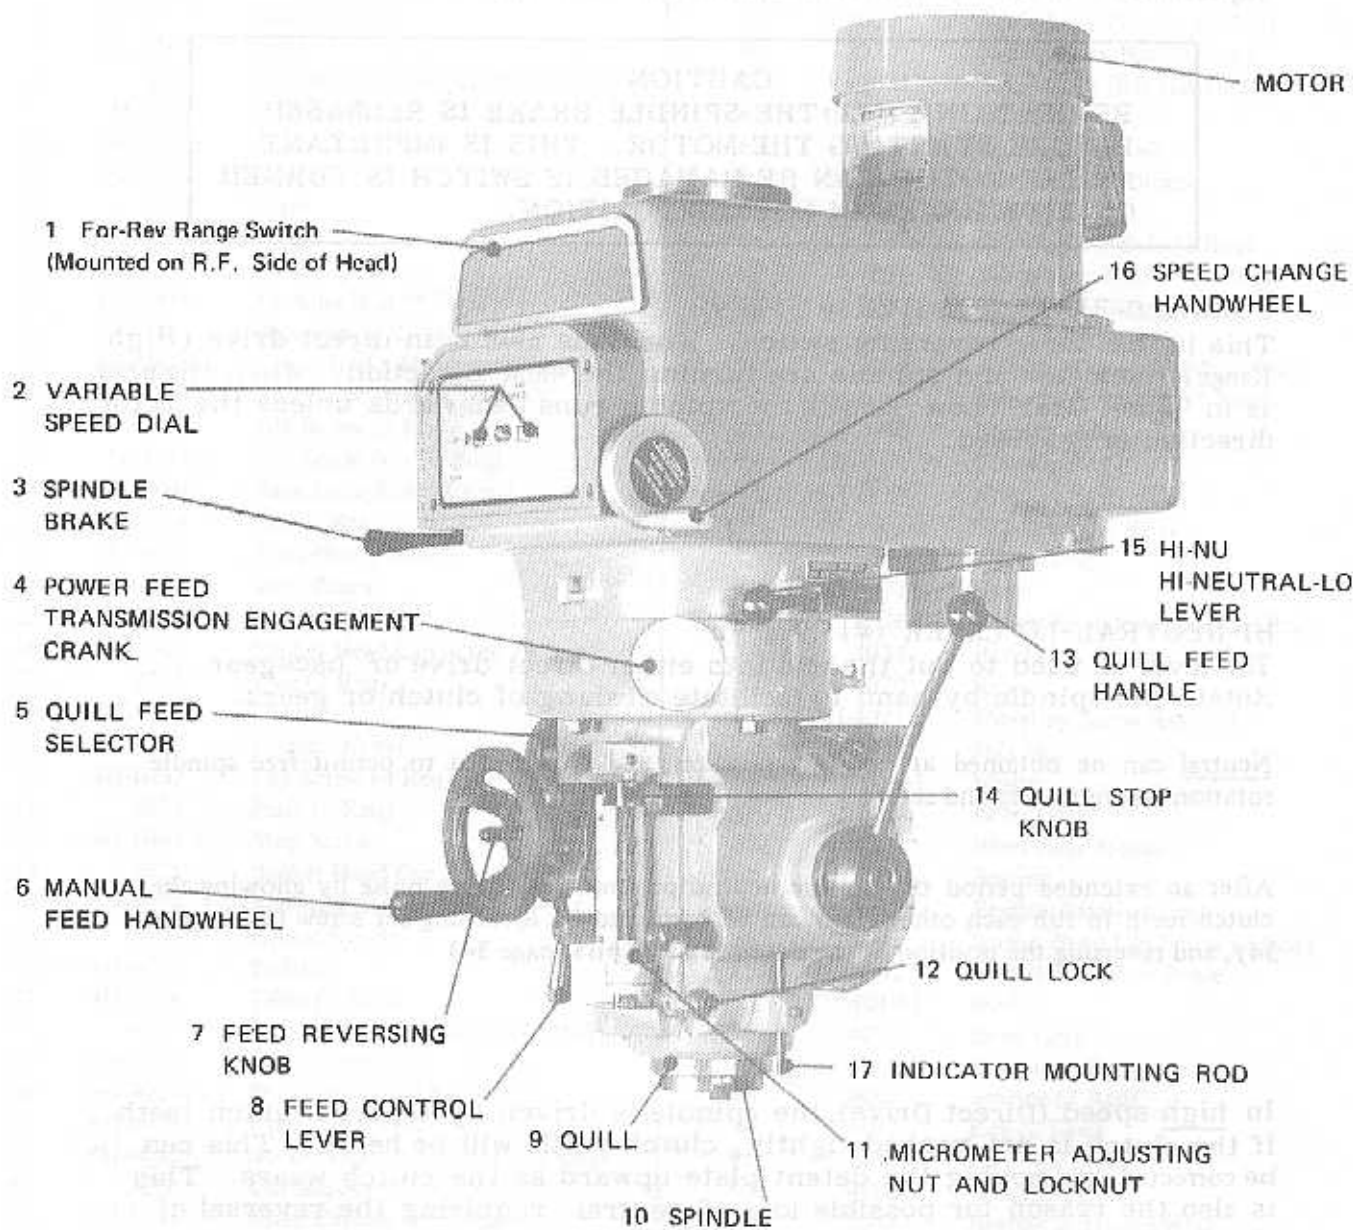
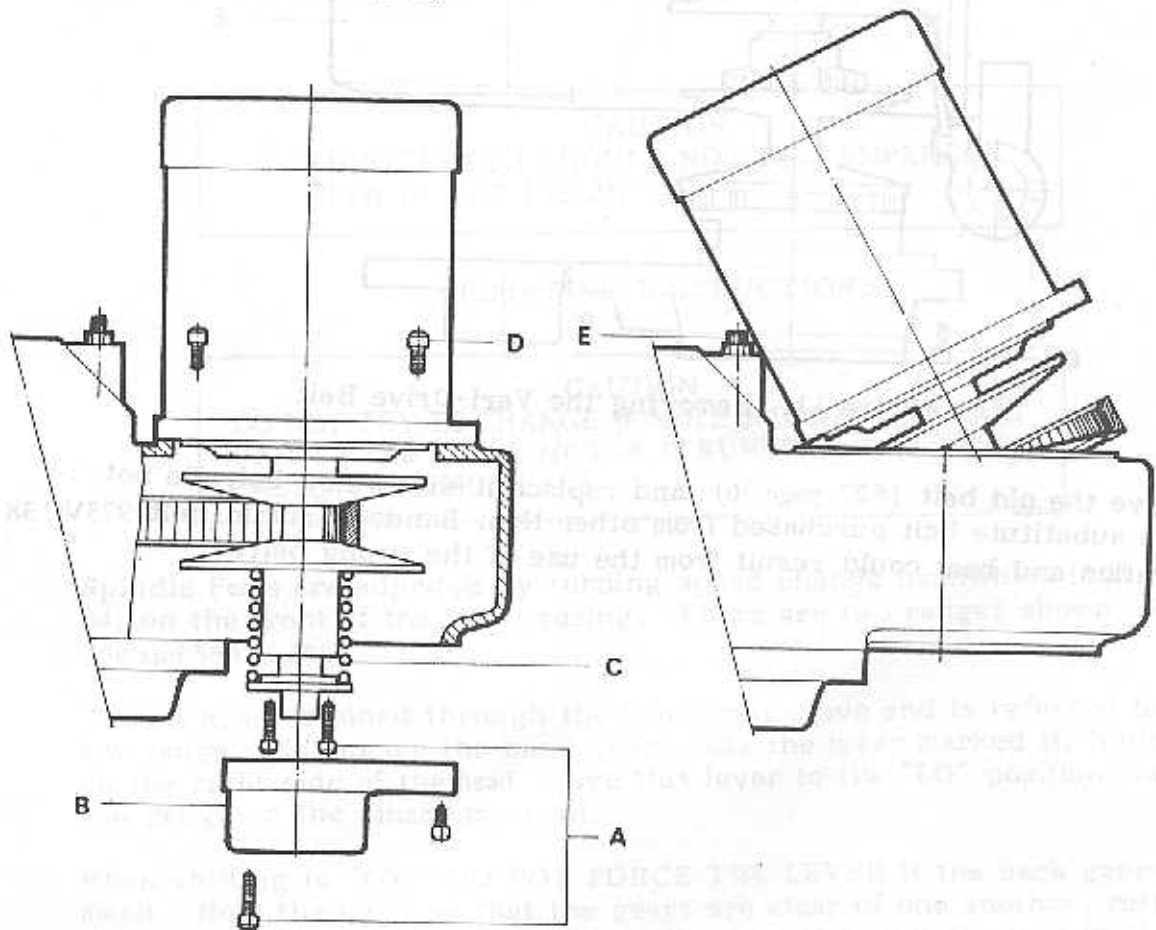

Figure 9. 5VK Milling Head
Figure 10. Removing the Motor (Side View)
**SPEED CHANGE HANDWHEEL (16, Figure 9):**
**SPINDLE BRAKE (3, Figure 9):**
**FORWARD-REVERSE SWITCH (#1, Fig. 9):**
**HI-NEUTRAL-LO LEVER (#15, Fig. 9):**
**POWER FEED ENGAGEMENT CRANK (#4, Fig.9):**
**QUILL FEED SELECTOR (#5, Fig. 9):**
**FEED REVERSE KNOB (#7, Fig. 9):**
**MANUAL FEED HANDWHEEL (#6, Fig. 9):**
Feed reversing knob should be in neutral position and feed control lever (#8, Fig. 9) engaged. Clockwise rotation of handwheel moves quill down. Manual Feed Handwheel and quill feed handwheel may be disengaged by moving them outward approximately 1/8".
FEED CONTROL LEVER (#8, Fig. 9):
QUILL FEED HANDLE (#13, Fig. 9):
QUILL STOP KNOB (#14, Fig. 9):
MICROMETER NUT (#11, Fig. 9):
QUILL LOCK (#10, Fig. 9):
Wear on the vari drive belt, will cause a slight change in the speeds to that shown in windows (#23, page 34) on the dial. This can be corrected as follows. Crank the speed change handwheel (#16, Figure 9) snugly against the high speed stop. (This will be near the 3800 reading on the dial.) Use a tachometer to determine the spindle speed, then turn the pivot stud (#16, page 36), after loosening the jam nut (Item #7, page 38) until the spindle speed registers 3800 on the tachometer; tighten jam nut.
#### REMOVING THE MOTOR (See Fig. 10):
2. Remove the cover (#54, page 36) (B - Figure 10) at the lower end of the motor shaft. Use two cover screws (#55, page 36) (A) to fasten the spring (#44, page 36) (C) on the lower end of the motor shaft, to the lower motor vari-drive pulley (#43, page 36). This will reduce the hazard of personal injury that is always present when a heavy spring is under compression. When the pulley, spring retainer (#45, page 36) and spring are securely fastened as a single unit, crank the speed change handwheel (#16, Figure 9) to top speed position.
3. Now remove the screws (#9, page 36) (D) that fasten the motor to the belt housing. The motor should be lifted slightly and pulled firmly away from the spindle and toward the rear of the belt housing. This will pull the vari-drive belt (#27, page 36) deeply into the spindle pulley (#25, page 36) providing the slack needed to slip the belt over the motor pulley (#43, page 36).
4. Now lift the motor high enough to rest the motor base GENTLY on the adjusting screw (#16, page 36) (E) seen directly in front of the motor flange. The belt can now be slipped over the lower pulley and the motor removed from the housing.
Complete the operation for removing the motor. Then put the Hi-Neutral-Lo lever (#15, Figure 9) in the Lo position, remove the drawbar (#14, page 36) (A, Figure 12) and lower the spindle.